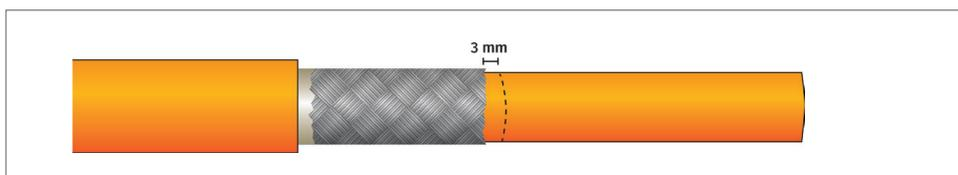

Fig. 7-7: Step 4: Marking the inner sheath
- ☞ Slide a 10 mm long piece of shrink sleeve over the HV power cable up to the marking (Fig. 7-7).